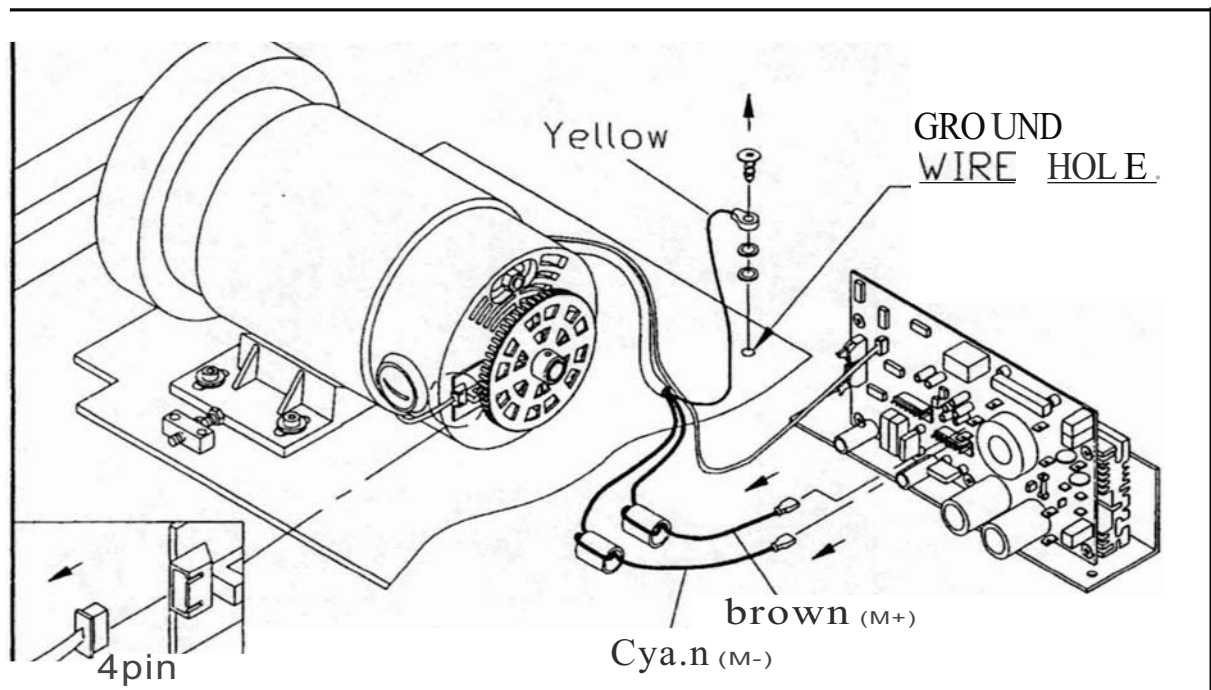

Fig.1
2. Unplug the M+ / M- wires from drive board. Release the 4P cable from optical switch. Unscrew grounding wire from the ground holder located on machine base. (see Fig.1)